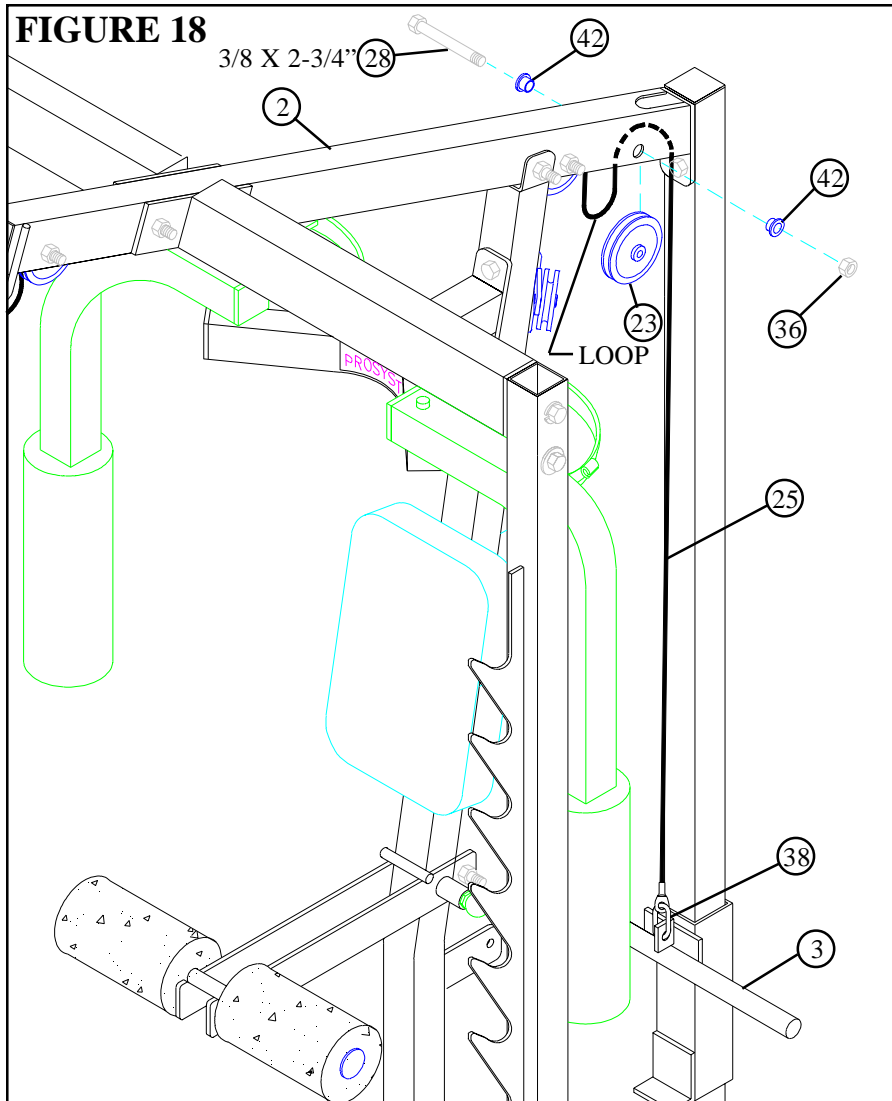

**FIGURE 17**
- **SECURELY** assemble BACK PAD (19) to the UPRIGHT FRAME (1) using two 3/8 X 2-3/4" BOLTS (28) and two 3/8" LOCK WASHERS (33) as shown in FIGURE 17.